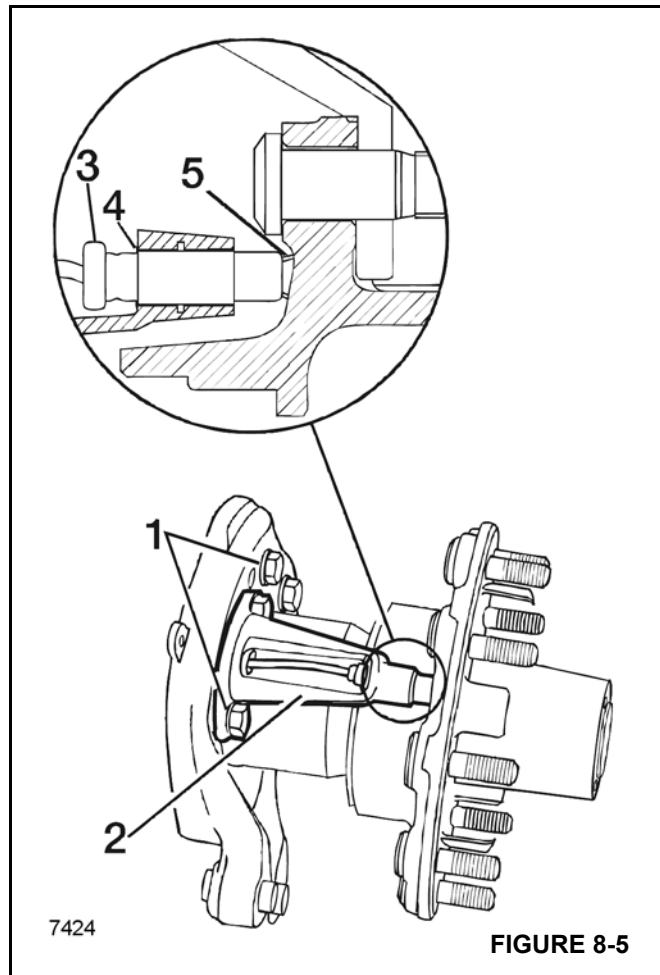

FIGURE 8-5
6. Remove the mounting bolts for the sensor bracket (Figure 8-5). Cut the tie straps along the sensor cable. Remove the P-clips at the S-cam tube, bracket and frame rail. Using a slight twisting motion, remove the sensor from its mounting block. Use extreme care not to damage the tooth wheel or the sensor.
1. Push the sensor spring clip (Figure 8-5) all the way into the mounting block.